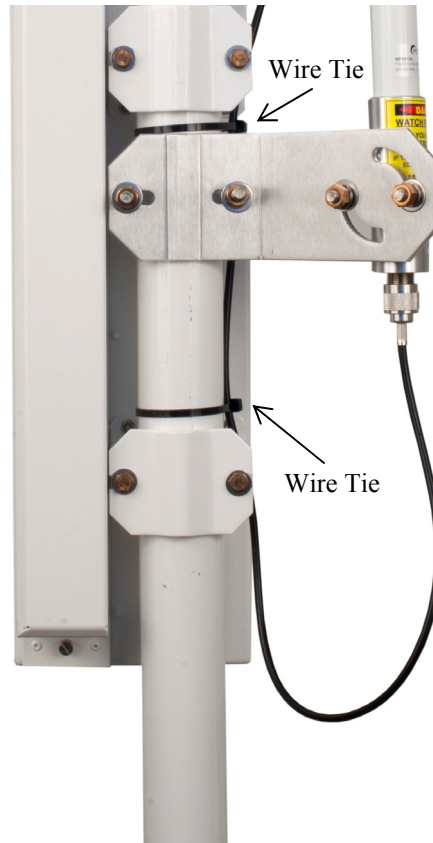

FIGURE 2.5-14. Wire Tie Locations for Omni Antenna Installation
5. Use the following procedure to install the 14205 Yagi antenna for the RF450. Installation of the 14221 Omni antenna is similar. See Figure 2.5-14.